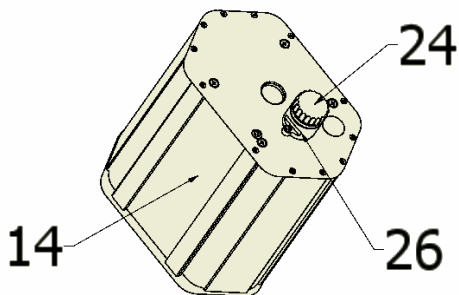

Figure 4
To recharge the battery, extract the battery (14) from the HDV (see fig. 4), put it in a safe place away from people and flammable objects. Unscrew the charger connector cap (24) and connect the charge connector (26) to the battery charger (see battery charger instructions). Next connect the battery charger power cord to the mains. When charged, disconnect the battery charge and close the connector (26) cap (24) and insert the battery in the HDV.